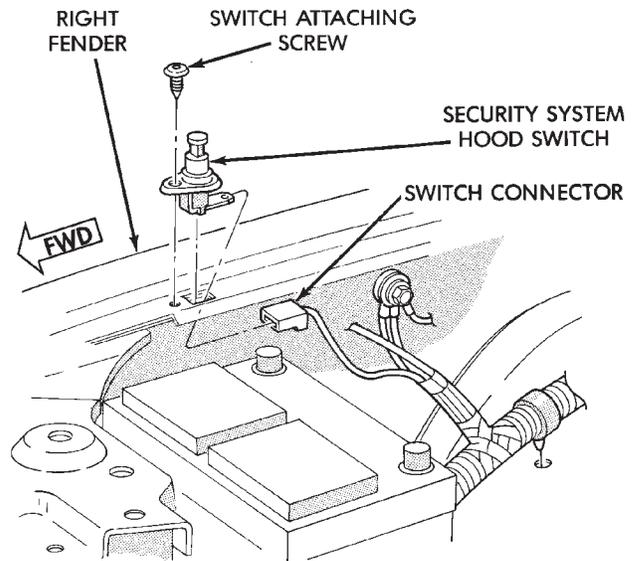

Fig. 4 Hood Switch Remove/Install
- (1) Disconnect and isolate the battery negative cable.
- (2) Remove the screw securing the hood switch to the right inner fender ledge (Fig. 4).
- (3) Unplug the wire connector from the switch.
- (4) Remove the switch from the mounting hole in the inner fender ledge.
- (5) Reverse the removal procedures to install. Tighten the switch mounting screw to 1.5 N·m (15 in. lbs.).